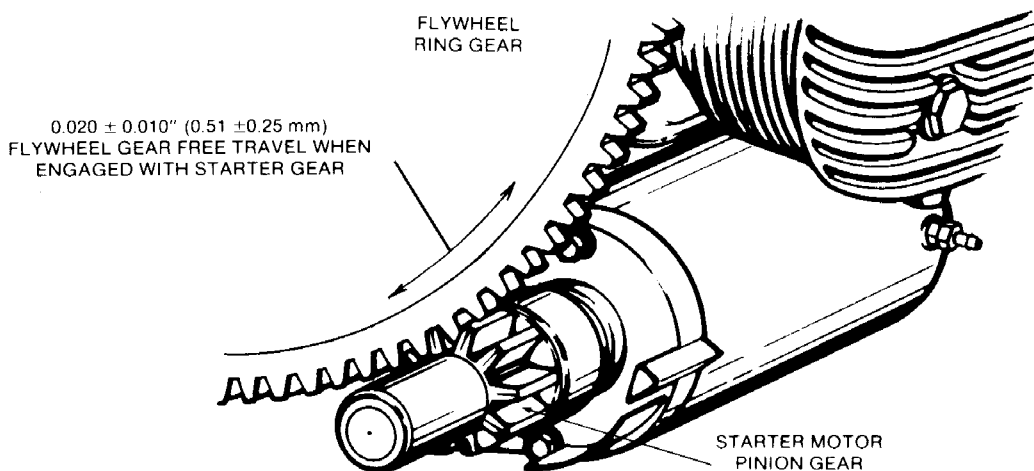

FIGURE 25. CHECKING STARTER GEAR LASH
4. Measure the amount of free travel (lash) between the pinion gear teeth and the ring gear teeth. See Figure 25. If lash is too tight causing binding and slow starter operation, or lash is greater than 0.035 inch (0.889 mm), lash must be adjusted.